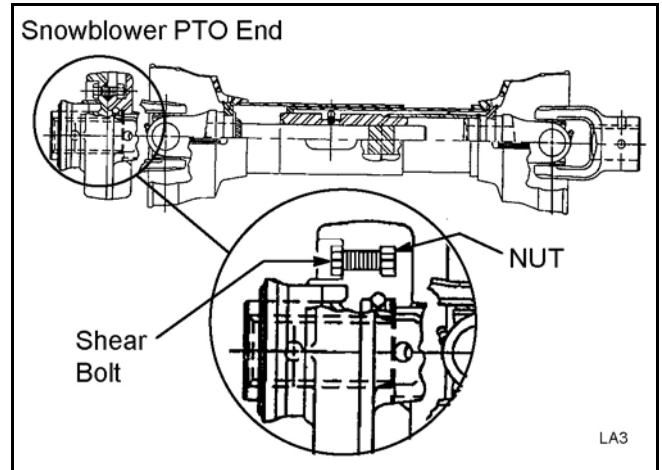

Figure 6. Shear Bolts
9. The PTO driveline is equipped with a shear bolt, Figure 6, that protects drive system components from shock loads if machine strikes an obstruction. See parts section for bolt size and grade.